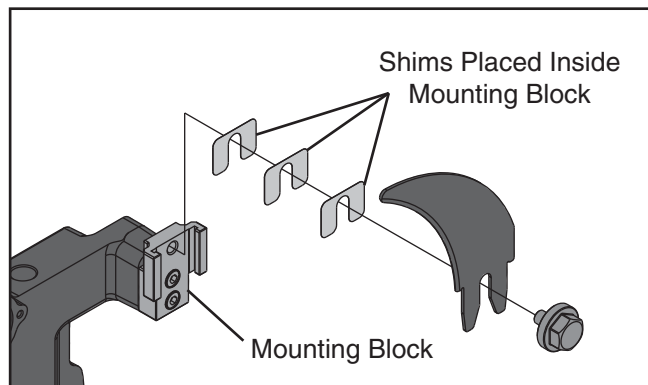

Figure 83. Shimming inside the block.
2. Place three shims inside the mounting block, as in **Figure 83**, then reinstall the splitter/riving knife, and fully tighten the mounting bolt.